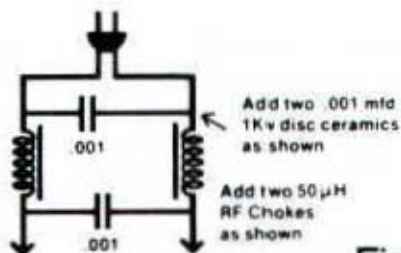

Fig. 1
- 1 Prior to working on the TV receiver, try to determine the source of the interference and its frequency. If the interfering frequency is on or near the TV intermediate frequency (IF) frequency (between approximately 41 and 47 MHz), proceed directly to Step 7. For FM broadcast interference, proceed to Step 10. For 50 to 54 MHz amateur interference, proceed to Step 8. If the interference is not on any of the preceding frequencies, try these next three steps:
- b Install a line filter which you may either purchase or construct by following the schematic in Figure 1.
- h **POWER LINE FILTER.** RF may enter the audio device through the AC power line. There are several commercially available brands of power line filters. A power line filter located at a wall outlet will not prevent RF pickup by the line cord between the filter and the amplifier. A power line filter such as the one shown in Figure 1 on page 43 may be constructed when necessary. Place the filter as close as possible to the point where the AC cord enters the amplifier.